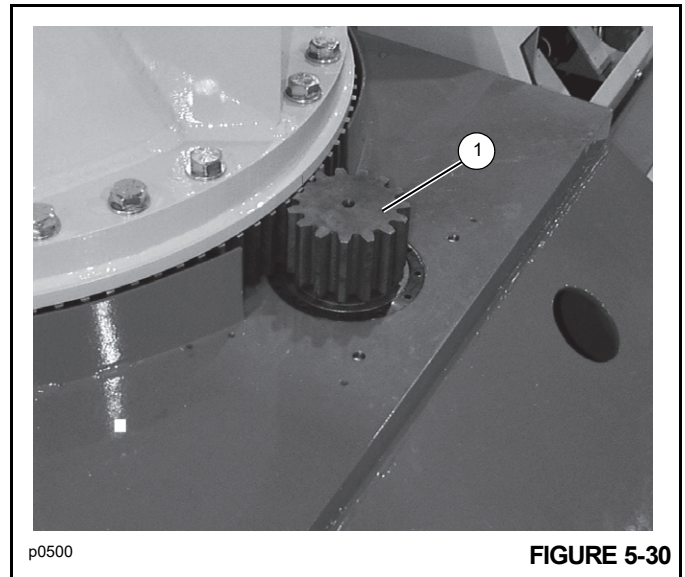

FIGURE 5-30
3. Using a brush, apply open gear lube to the pinion and swing gear teeth (1, Figure 5-30).